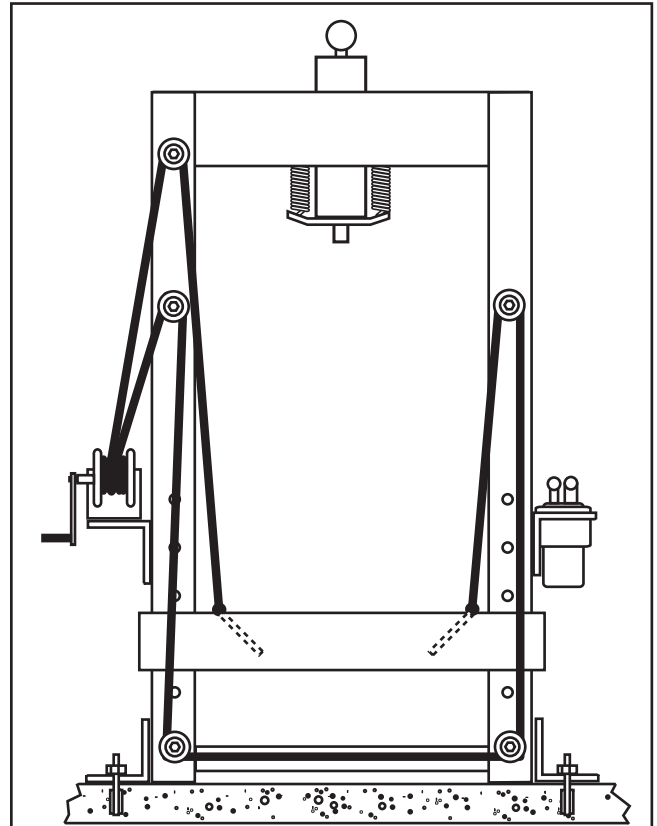

Figure 7. Cable routing.
7. Route the bed winch cables around the appropriate pulleys, as shown in **Figure 7**.